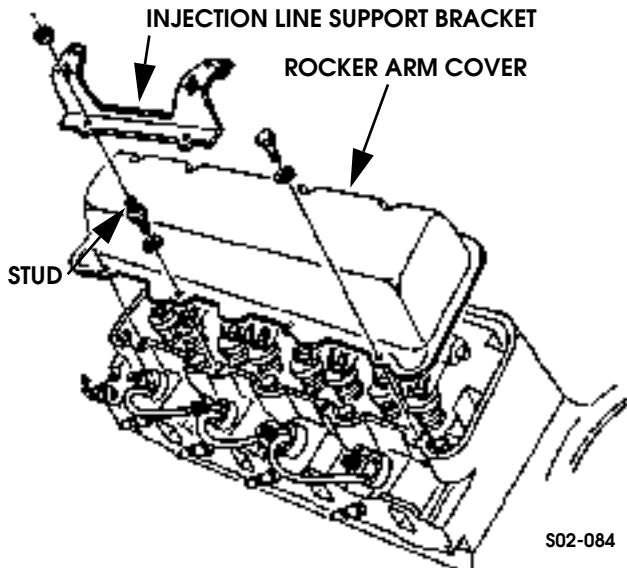

Figure 2-77: Rocker Arm Cover Removal
1. Remove injection line support bracket from studs (Figure 2-77).